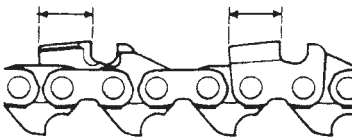

Fig. 43
- 5) Keep all cutters the same length. (Fig. 43)